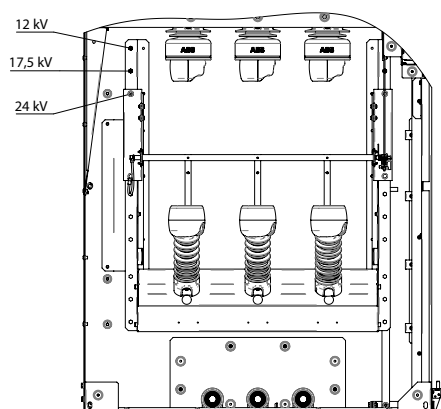
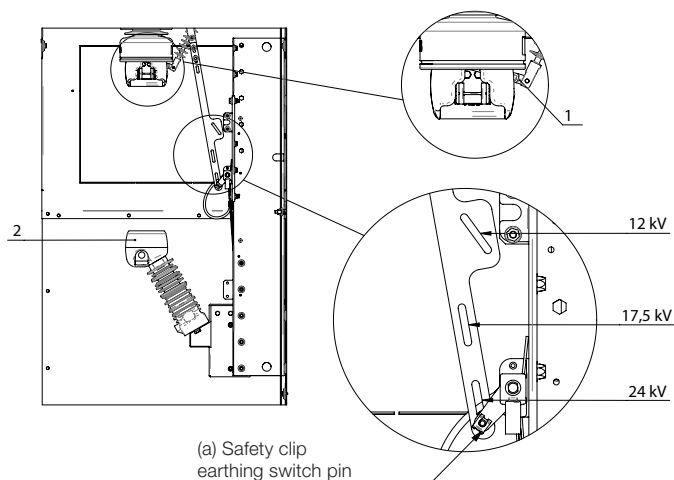

Fig. 2
Fig. 3
2. Release the safety clip (a) and remove the pin of the earthing switch indicated in figure 3
3. Choose the correct position with respect to the insulation voltage of the fuses for both the fuse holder crosspiece (figure 2) and earthing switch drive (figure 3)
- Insert the fuses (with their strikers pointing upwards) by resting them on the lower clamp (2) of figure 3
- Make sure that the releasing tab (1) of figure 3 is in the position shown in the figure.
- Insert the new fuse (with its strikers pointing upwards) by resting it on the lower clamp (2) of figure 3